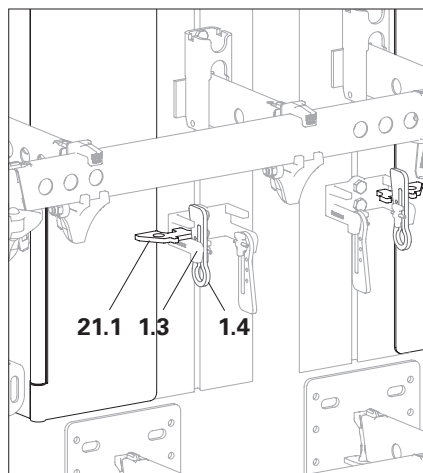

Fig. D1.04
4. Swing up the wedge (**1.4**) and lock the lugs and secure with a jarring blow. (Fig. D1.04) See also , "C2 Inside corner" on page 36 and "C3 Outside corner" on page 42.